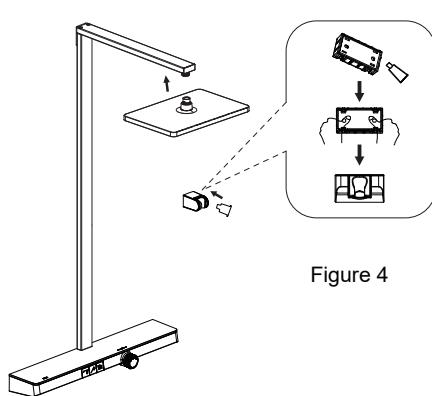

Figure 3
- a) Connect the overhead shower to the arm pipe (Figure 3).